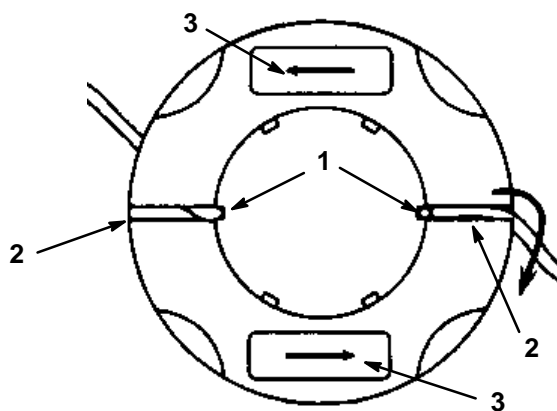

Figure 19
4. Cut two (2) new lines (10'–15') of equal length.
5. Place ends of line in holes on inside of spool (Figs. 19).
6. Place the two (2) lines through the slits and wind the line in even, tight layers onto the spool in the direction indicated on the spool (Figs. 19).